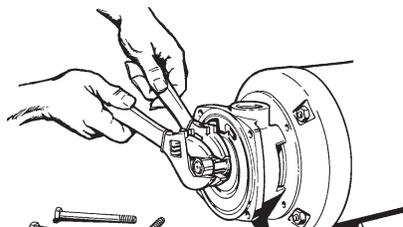

Figure 4-18
n. Place a second crescent wrench over the nut and tighten in a clockwise direction until it is secured. Refer to Figure 4-18.